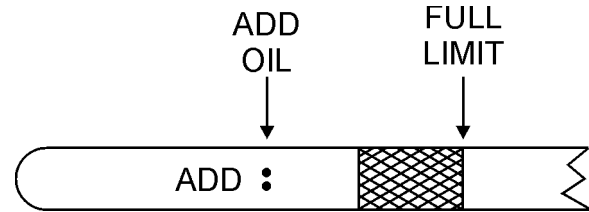

Figure 5. Engine Oil Level
5. Make sure the buggy is level and verify that the oil level is maintained between the two notches (Figure 5) as shown on the dipstick. Reference Table 4 for proper selection of engine oil.